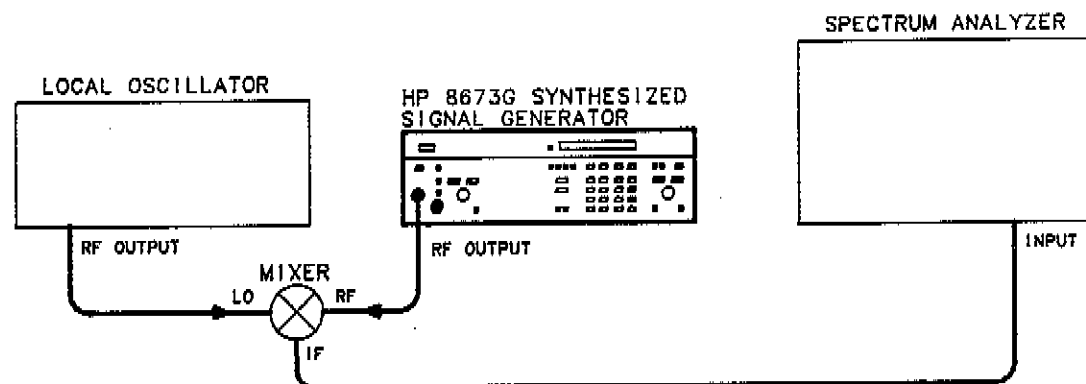

Figure 4-11. Single-Sideband Phase Noise Test Setup
1. Connect the equipment as shown in Figure 4-11.